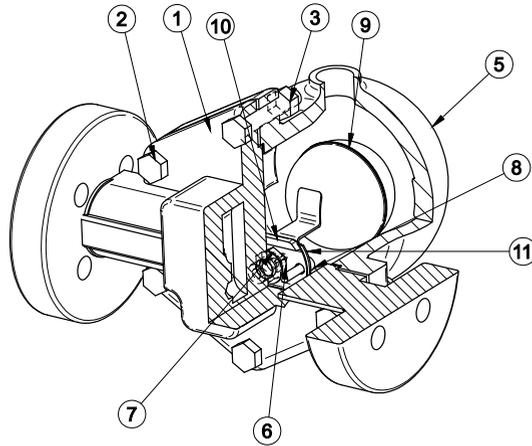

Figure 1: Forbes Marshall Liquid Drain Trap
(Refer to Figure 1) A Forbes Marshall Liquid Drain Trap works on the Buoyancy Principle. As Moisture enters the trap body and raises the ball float (9). The position of the ball float (9) depends upon the level/load of Moisture (flow rate). The liquid drain trap continues to discharge Moisture and doesn't allow back up of Moisture as long as the load is within the discharge capacity. When the Moisture load drops, the ball float (9) lowers in position and closes the outlet orifice of the valve seat (6).
7.4. Maintaining the main valve assembly: [Refer figure 1 and 5]